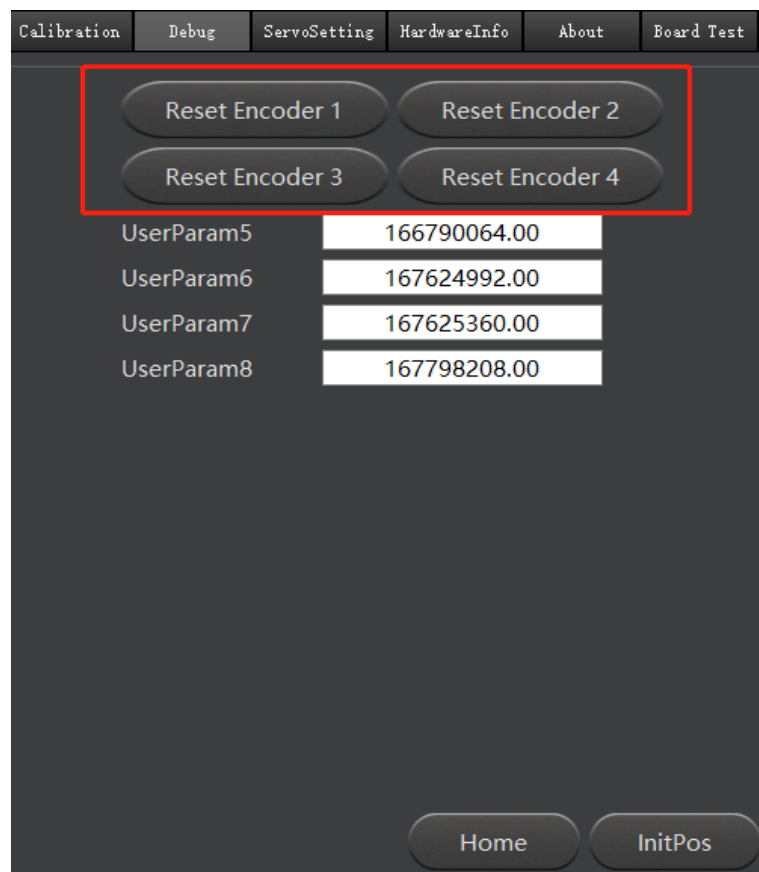

Figure 7.18 Reset Encoders
3. Click **Reset Encoder1**, **Reset Encoder2**, **Reset Encoder3**, and **Reset Encoder4** respectively on the **Debug** page to reset J1 Encoder, J2 Encoder, J3 Encoder and J4 Encoder, as shown in Figure 7.18.